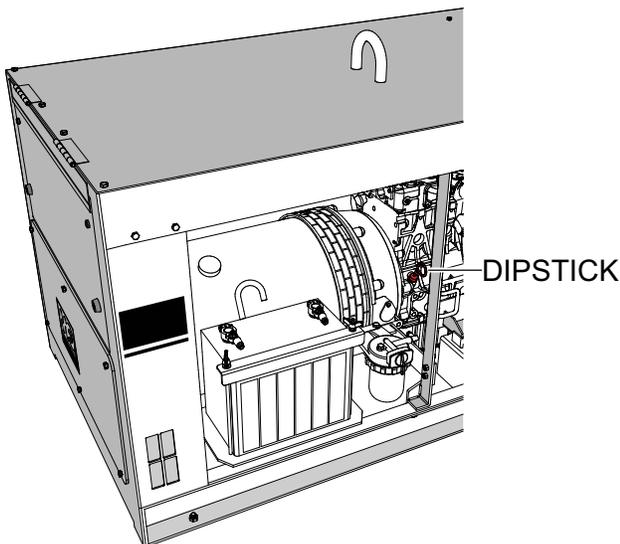

Figure 8. Engine Oil Dipstick Removal
2. Remove the dipstick from its holder (Figure 8) and wipe clean.